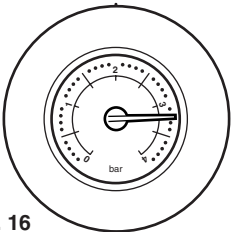

Fig. 16
3. A pressure of 3 or greater indicates a fault. The safety pressure relief valve will operate, at a pressure of 3 (Fig. 16). **It is important that your Service Engineer is contacted as soon as possible.**